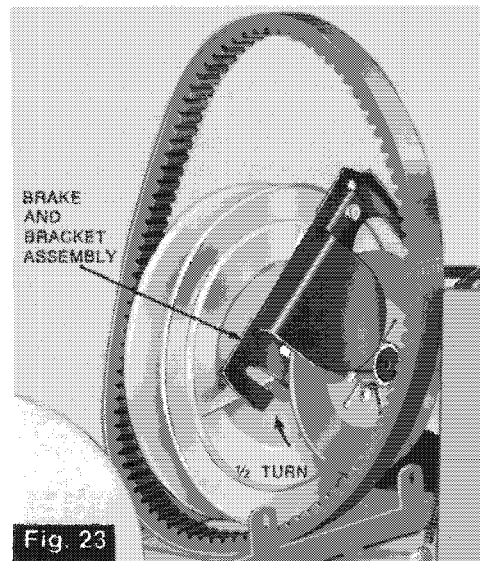

Fig. 23
4. Slip the belt out from the drive pulley (centrifugal governor) and remove completely from vehicle by passing it under the driven pulley and disc brake assembly. (See Fig. 23).